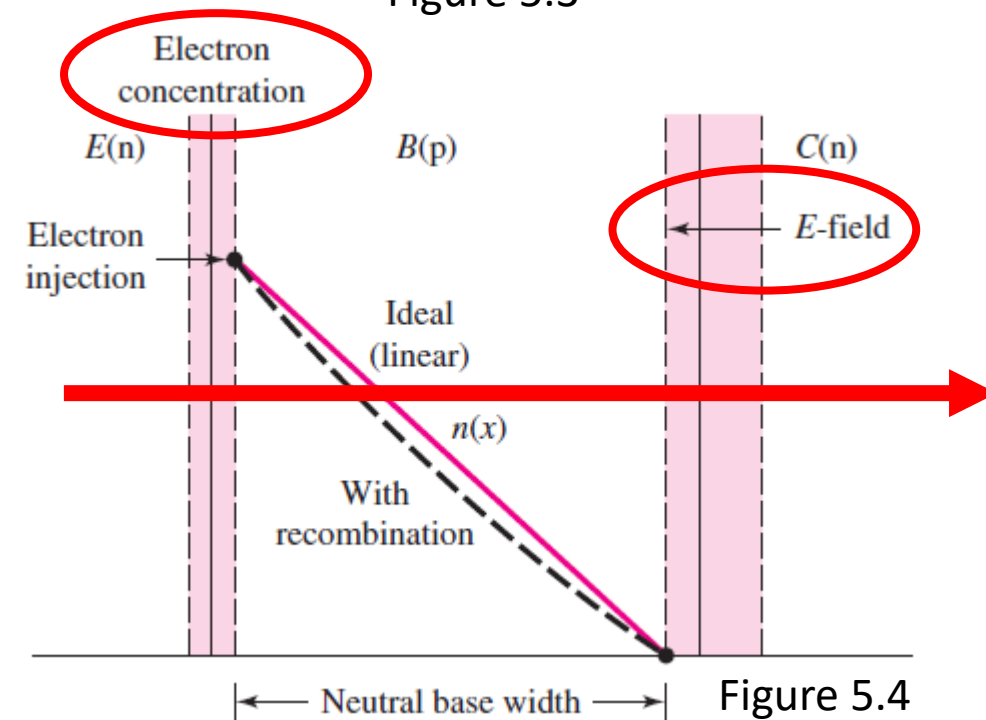

Figure 5.4
- In this case, the **electron distribution versus distance** through the base is a straight line as shown in Figure 5.4.